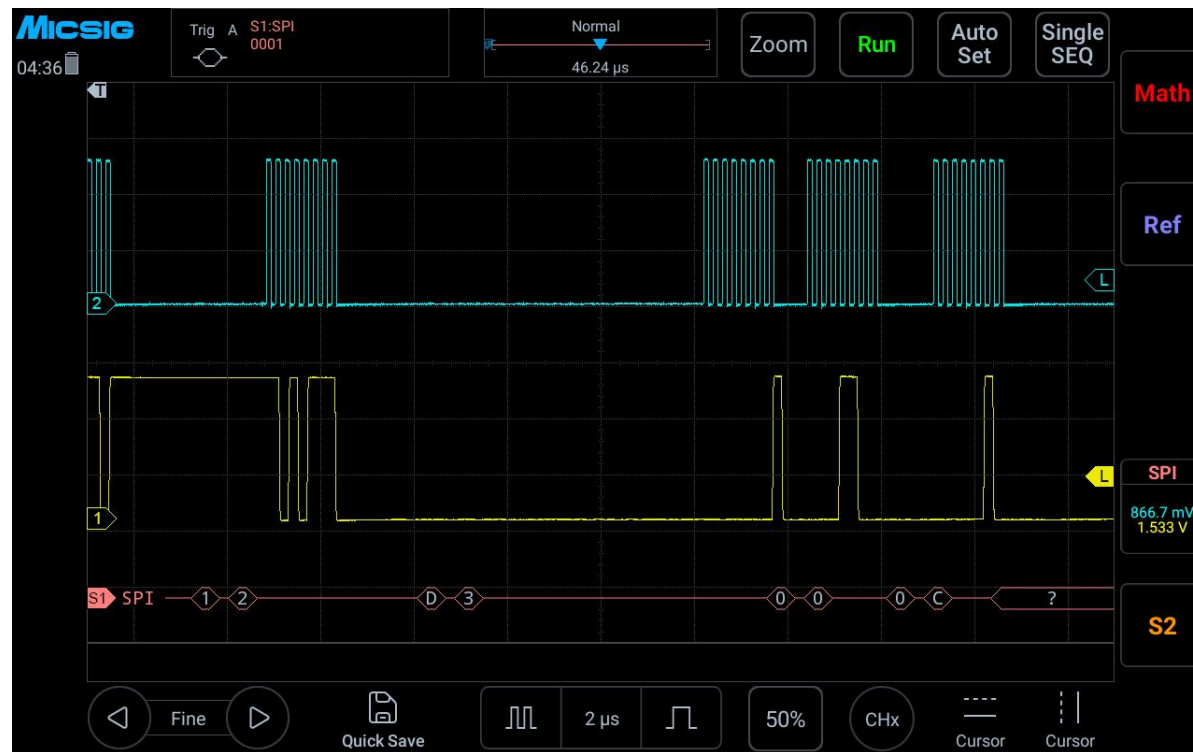

Figure 13-20 SPI bus decode interface
- (1) Tap S1 to open the decode channel, and click S1 again to open the bus configuration menu;
- (2) Select the bus type as “SPI”, click clock as “Ch1” rising edge, the data is “Ch2” high level, and the data word length is “4bit”;
- (3) Open the trigger setting menu, click data on the touch screen, and use the virtual soft keyboard to set the data to be matched as “0001”;
- (4) Adjust the threshold levels of two channels according to signal amplitude; the SPI trigger graphic interface is shown in Figure 13-20: